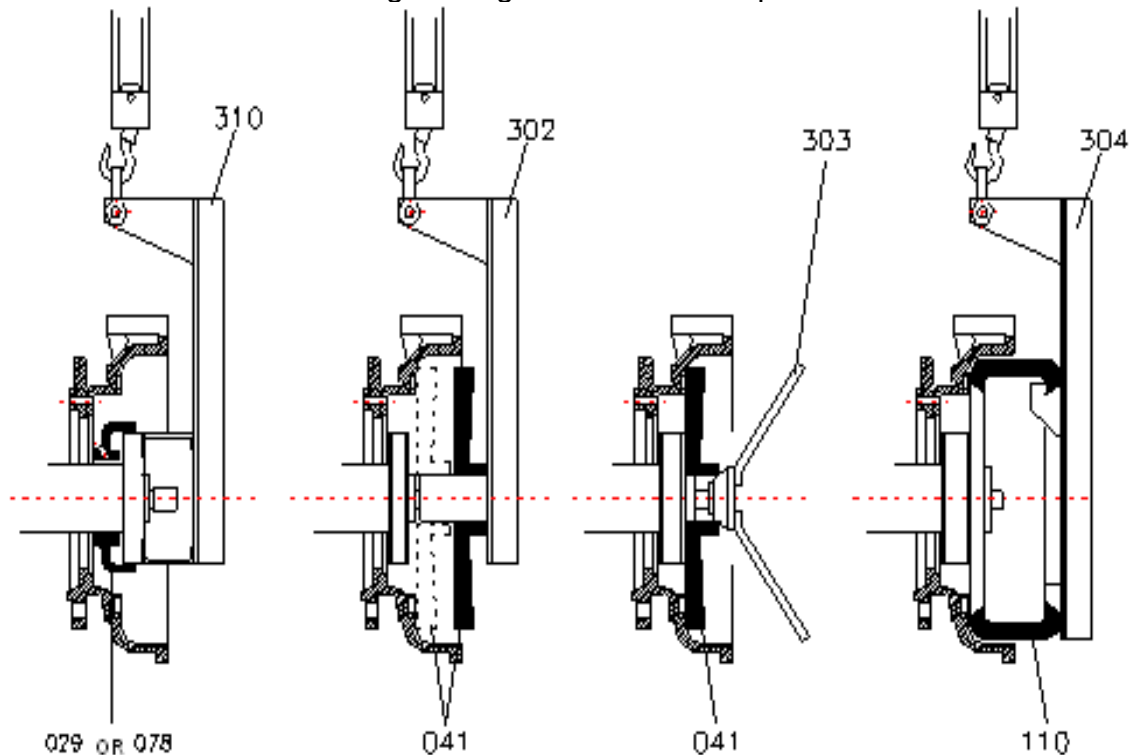

Fig. 19
- 1 – Place a shaft sleeve O'ring (109) in the labyrinth groove.
- 2 – Join the divided Relief Collar (239), with its bolts, and tighten them firmly. Place the collar (flat face out) in the shaft to the labyrinth.
- 3 – Place a second shaft sleeve O'ring (109) beside the collar.
- 4 – Slide the Shaft Sleeve (075) over the shaft. Place the Shaft Sleeve O'ring (109) and push it into the indentation in the shaft sleeve end.
- 5 – Freely adapt the Brack Ring (063), followed by the Prop Ring of the packing (067) over the sleeve and push both against the bearing house box.
- 6 – Attach the Expeller Box Lifting Beam (310) to the Expeller box on the opposite side of the saliences, by using three bolts. Check it to make sure that the grease inlet is aligned with the lifting beam in the expeller box (See fig. 19).
- a) Slide the Prop Ring of the Packing (067) inside the Expeller Box;
- b) Place the first Packing Ring (111), of a proper length in order to fill the space. Slide it against the prop ring of the packing;
- c) Slide the Brack Ring (063) and press it to flatten the first ring;
- e) Assemble the Gland halves (044) on the shaft sleeve with the gland neck towards the Expeller Box. Insert the Gland Bolts (126) and tighten them completely. Push the halves into the Expeller Box in order to compress the packing
d) Screw and tighten the covering volutes (026) in threaded holes as predicted in the internal rear covering. Alternately, depending on the pump type, place the bolts (040) in “T” slits as predicted in the covering. Wedge small pieces of rubber under the bolt heads in order to keep them in their position;
e) Elevate the lifting pipe (302) by means of a crane (See Fig. 19).
- a) Place the covering sealing (124) (smooth side resting on the rear body) on the rear body groove;
- b) Screw and tighten the volutes (026) in the threaded saliences predicted in the internal rear covering (041);
- c) Lift the lifting pipe (302) using a winch (See Fig. 19). Lift the internal rear covering touching lightly the groove end of the lifting pipe. Push the lifting pipe into the central covering hole. Lift the pipe with the covering and slide the pipe over the shaft screw thread. Align the volutes with the holes and push the covering against the rear body. Place the nuts but do not tighten them. Remove the lifting pipe;
- d) Thread and tighten the volutes (023) in the threaded saliences of the rear covering (043);